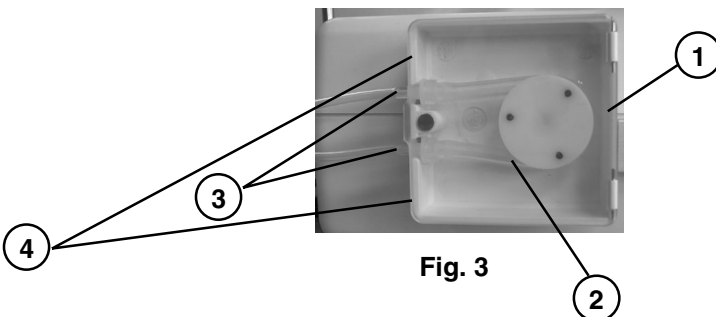

Fig. 3
With reference to Fig. 3 open the side door of peristaltic pump (1) and remove the tube (keeping it safe for future uses with irrigators other than the one supplied); insert the larger section tube (2) (included with the disposable irrigator supplied) into the peristaltic pump, paying attention to:
- the positioning of supports (3), since, as can be observed in the figure, the supports perform a restraining function on the exterior of the pump;
- the connection of the "IN" and "OUT" sides (4) respectively to the saline solution bottle and the surgical handpiece (not supplied).